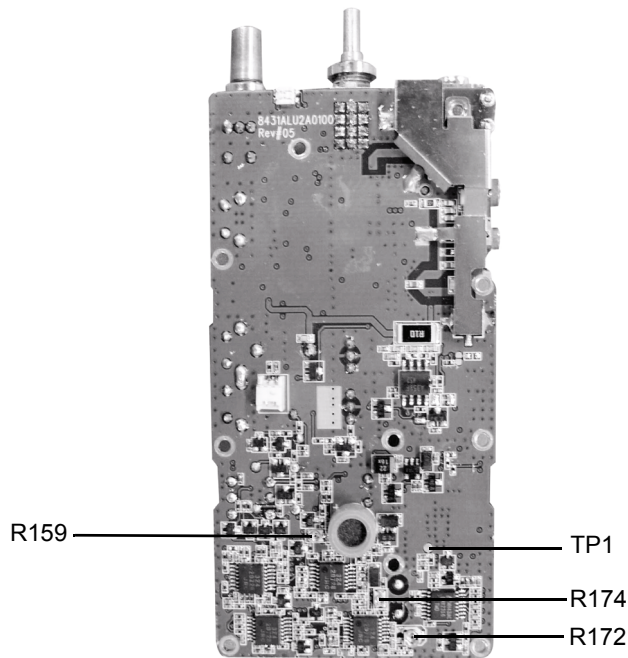

Figure 3-3 Top Side of PCB
6. Using the ceramic tool, adjust R174 to tune to 100% of the maximum deviation (refer to Figure 3-3).
5. Using the ceramic tool, adjust R159 to tune maximum modulation between  $2.4 \pm 0.02$  KHz for narrow band or under 5KHz for wide band (refer to Figure 3-3).
5. Using the ceramic tool, adjust R172 to tune subtone modulation between  $0.42 \pm 0.02$  KHz at narrow band (refer to Figure 3-3).
2. Detect output voltage at test point TP1 (refer to Figure 3-3).